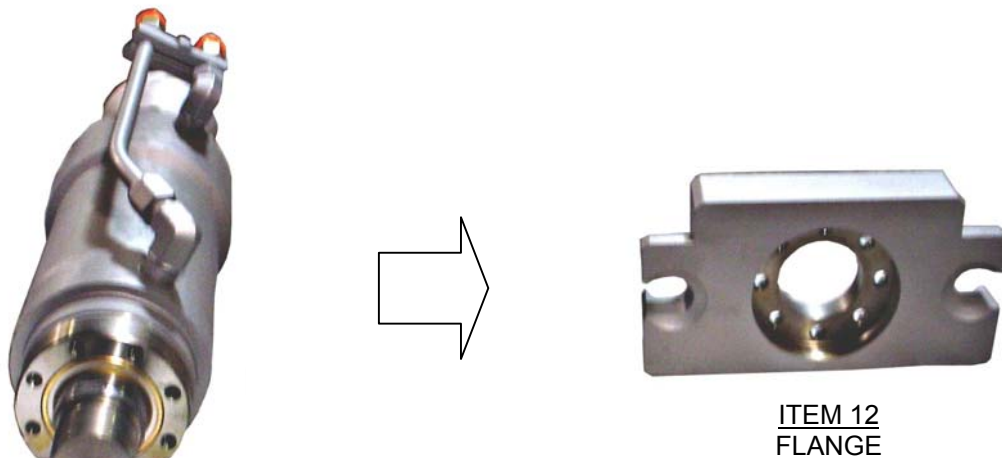

FIGURE 5
After removing the (8) flange retaining screws, carefully slide the flange (Item 12) off the rod. See Figure 5.